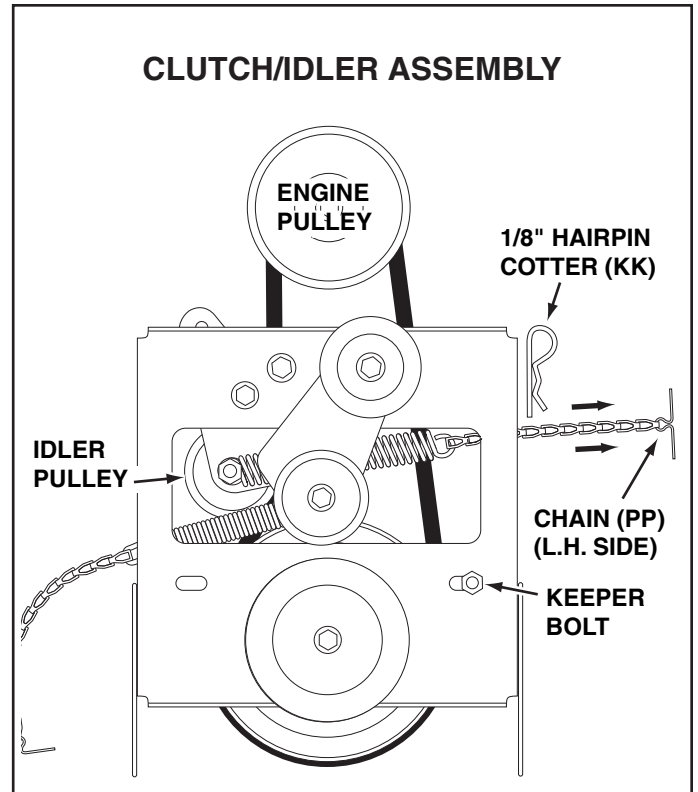

FIGURE 46
STEP 47: (SEE FIGURE 46)
- Place tension on the belt by pulling the left side tensioning chain out as far as the 3/32" hairpin cotter (LL) will allow. Secure the chain in this position by inserting a 1/8" hairpin cotter (KK) through the chain.